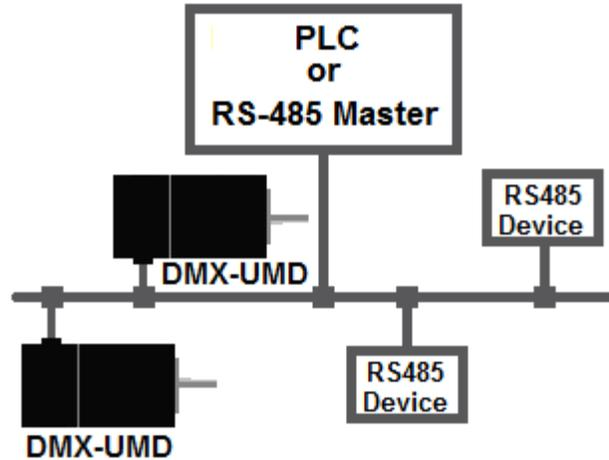

Figure 6.2
A typical RS-485 network is shown in figure 6.2. Several techniques can be used to increase the robustness of an RS-485 network. Please see section 6.2.5 for details.
1. Daisy Chaining: For a multi-drop RS-485 network, be sure that the network uses daisy-chain wiring. Figure 6.2 shows an example of a daisy chain network.